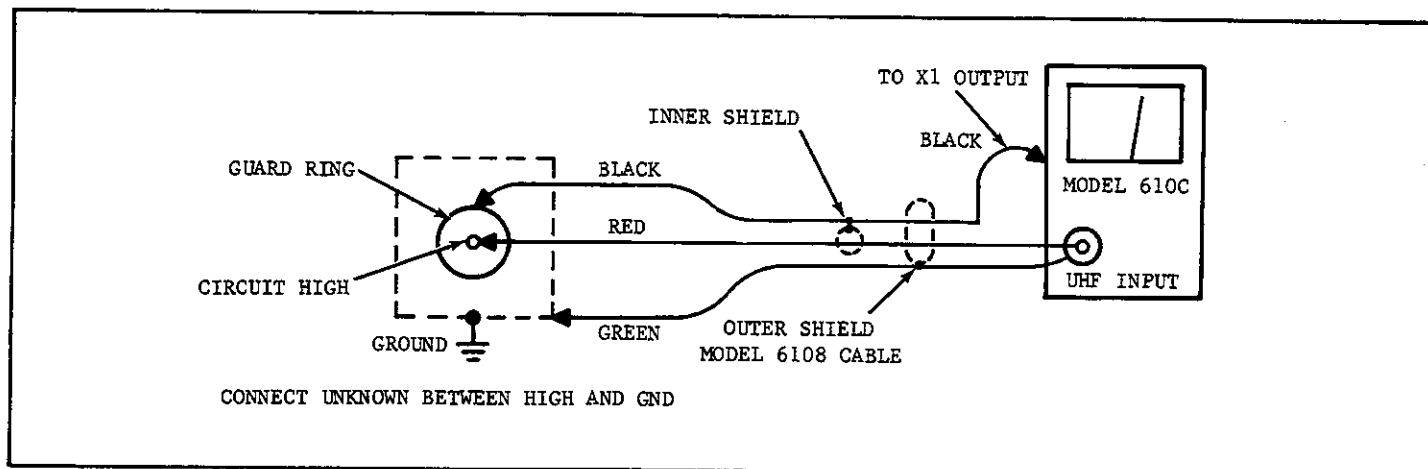

FIGURE 5. Guarded Voltage Measurement
2. Connect the Model 6108 to the UHF input. Connect the black banana plug to the X1 OUTPUT on the rear panel of the instrument. Connect the remaining alligator clip leads as shown in Figure 5.